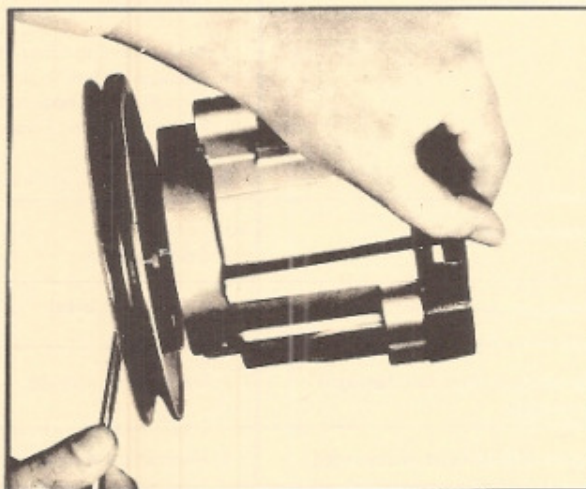

Figure 61 — Filter Fan Installation
1. Install the new filter by drawing it on with the pulley and pulley bolts (see figure 61). Do not attempt to install a filter by hammering it on or pressing it on.
1. With the use of a hydraulic jack and two (2) 5-ton jackstands, raise the front of the vehicle as shown in figure 61.